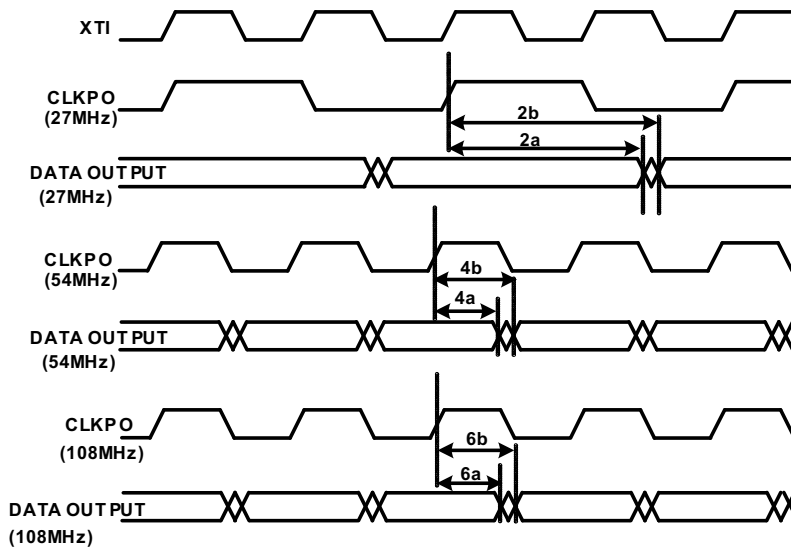

FIGURE 6. ISL79988 VIDEO DATA/SYNC TIMING
8. CLKO timing is related to CLKO_DEL register value. Figure 6 illustrates an example where the CLKO_DEL is set to 0 hex and CLKO_POL is set to 0.